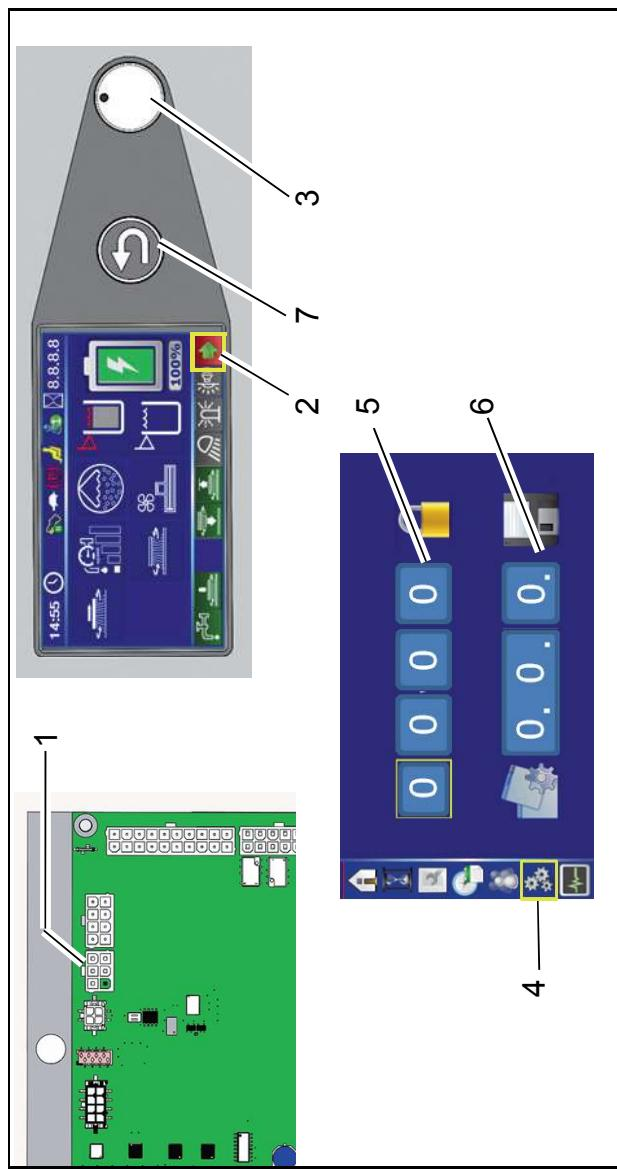

Fig. 3
Connect diagnosis plug to slot X20 of controller A1 (Fig. 3/1).
- Select the arrow softkey (Fig. 3/3) on the control panel using the turn-push knob (DDS) (Fig. 3/2) and press to access the sub-menu.
- Select the configuration menu in the sub-menu (Fig. 3/4).
- Enter the 4-digit code in the configuration menu at the top (Fig. 3/5):
- Select the value of the option under (Fig. 3/6) in the configuration menu and save by pressing the DDS. After confirmation of the final digit, OK? appears. Press the DDS again to save the value. The saved value is now displayed in green.
- If the value is not to be saved, exit the menu using the return button (Fig. 3/7).